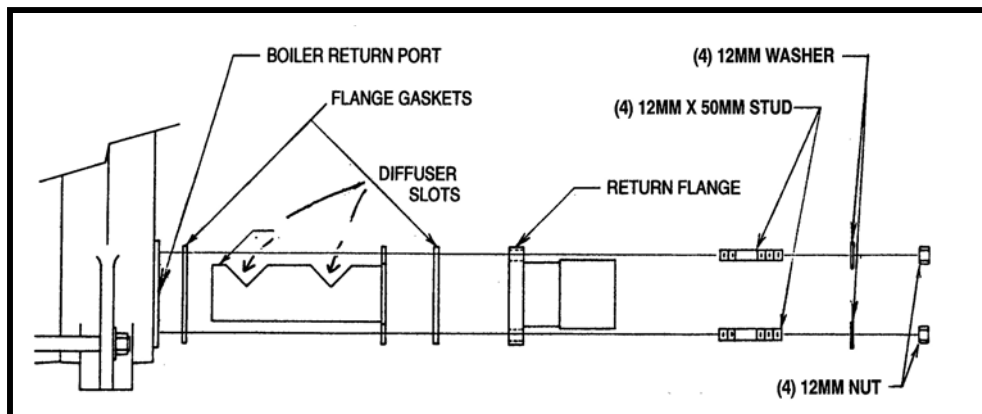

Figure 15. Return Diffuser Installation
- b) Install return port diffuser and attach return flange as shown in Figure 15. Make sure diffuser SLOTS face upward.